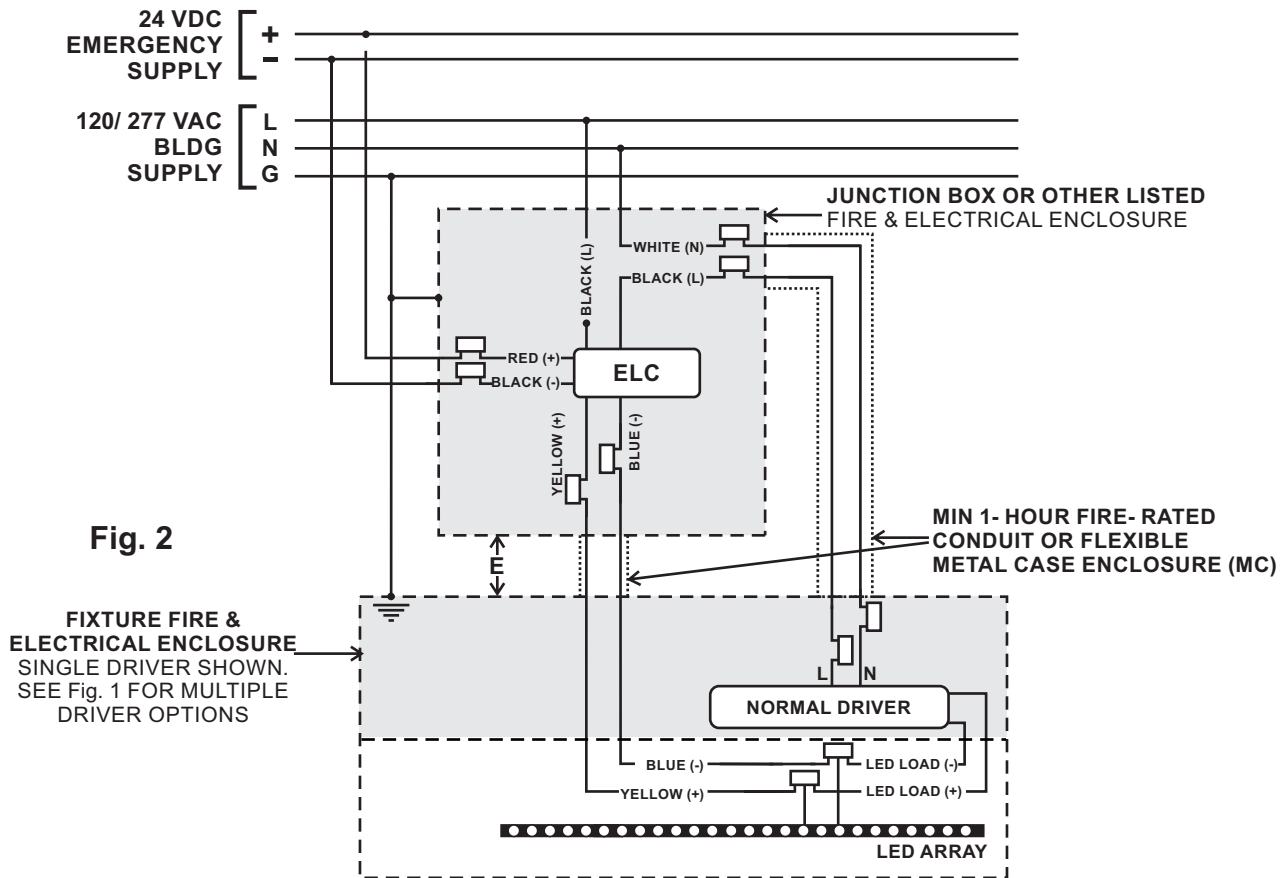

Fig. 2
1. See Fig. 2. Locate Junction Box of suitable size for required wiring and ELC unit. NOTE: Using wiring size #18 AWG for the low voltage output to the luminaire (BLUE and YELLOW connections to the ELC) maximum distance from ELC to the luminaire should not exceed 30 ft. (dimension E on Fig. 2).